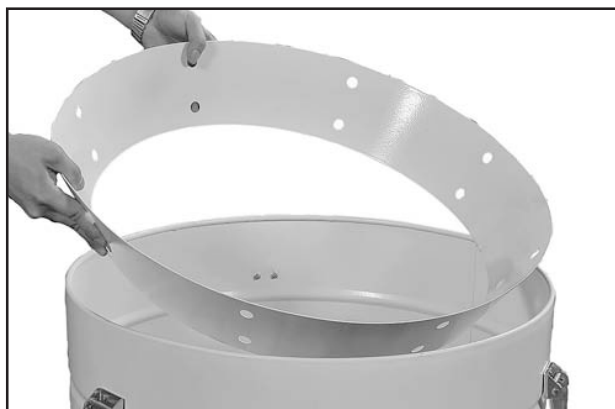

Figure 33. Inserting collection drum vacuum ring.
17. Place the collection drum vacuum ring on the bottom of the collection drum (see **Figure 33**).